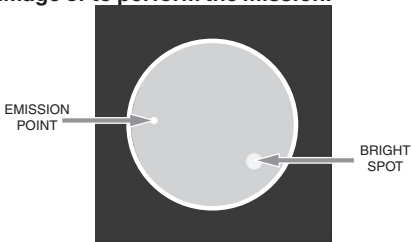

FIGURE 3-3. BRIGHT SPOTS AND EMISSION POINTS
(1) Bright Spots. A bright spot is a small, nonuniform, bright area that may flicker or appear constant (Figure 3-3). Not all bright spots make the NVFS rejectable. Cup your hand over the objective lens to block out all light. If the bright spot remains, return the NVFS to the maintainer. Bright spots usually go away when the light is blocked out. Make sure any bright spot is not simply a bright area in the scene you are viewing. **Bright spots are acceptable if they do not interfere with the operator's ability to view the image or to perform the mission.**